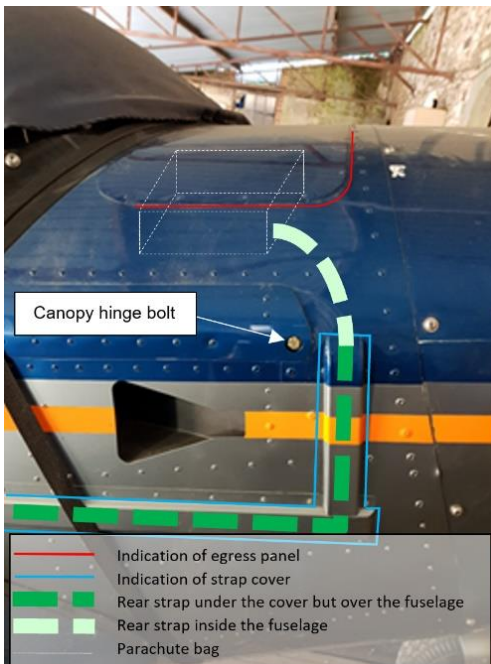

Figure 4: Incorrect installation
Figure 4 shows the abnormal rear harness routing inside the front parachute compartment encountered on the installation performed by CZAW. The rear harness comes into the parachute compartment through a hole cut in the riveted fuselage skin at the level of the canopy hinge bolt2. This installation holds the rear strap under the fuselage skin of the parachute compartment, leading to a strap partially captured in the front fuselage structure and thus not able to extend above the cockpit when the system is activated.
- if not (like observed in Figure 4) or if any doubt, contact either the airplane manufacturer3, or the parachute system manufacturer or any specialist in emergency parachute system installation **for a safe re-installation of the rear harness**;